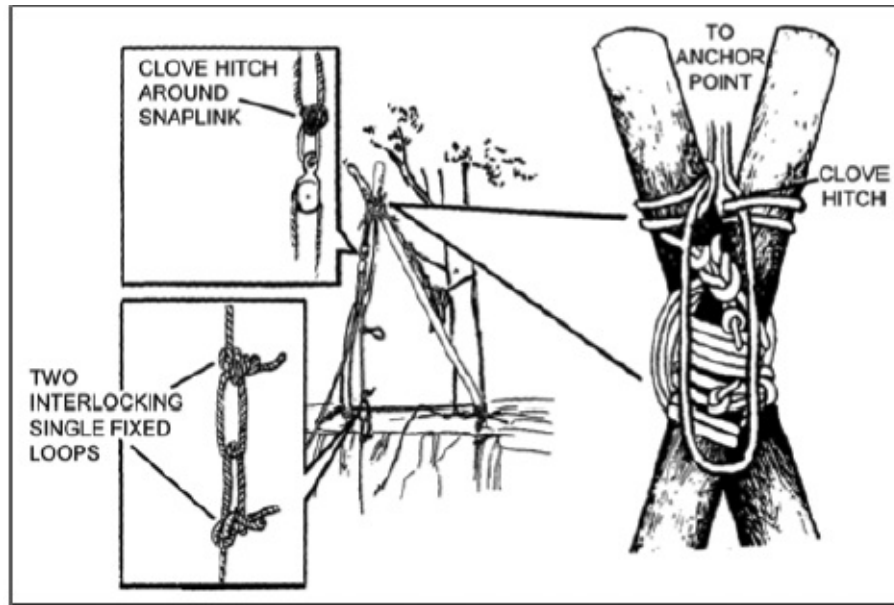

Figure 5-20. Vertical hauling line
- b. **Vertical Hauling Line.** This installation (Figure 5-20) is used to haul men and equipment up vertical or near vertical slopes. It is often used in conjunction with the fixed rope.